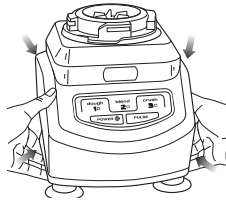

Fig. 8
- 12 To release the motor base from the counter or table top, place your hands underneath both sides of the motor base and gently pull the unit up and towards you. (Fig. 8)